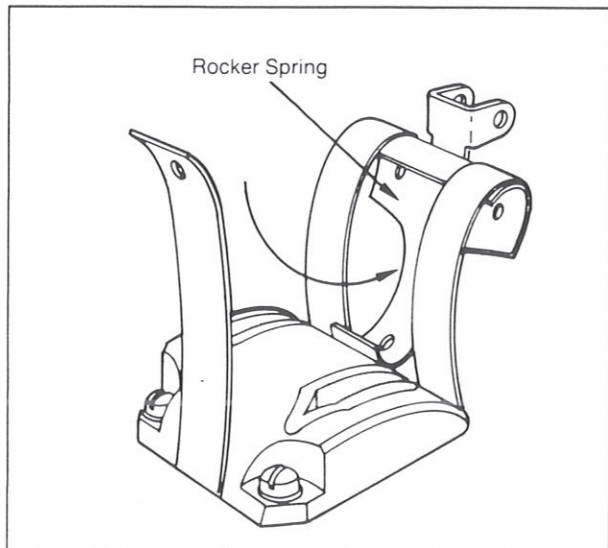

Figure 5
7. The rocker spring assembly must be gently forced over the seal block and through the opening of the two edge bands (reference Figure 5). This action will allow the assembly to rotate upward, relax tension on the edge bands and allow the slotted holes and rivets to disengage.